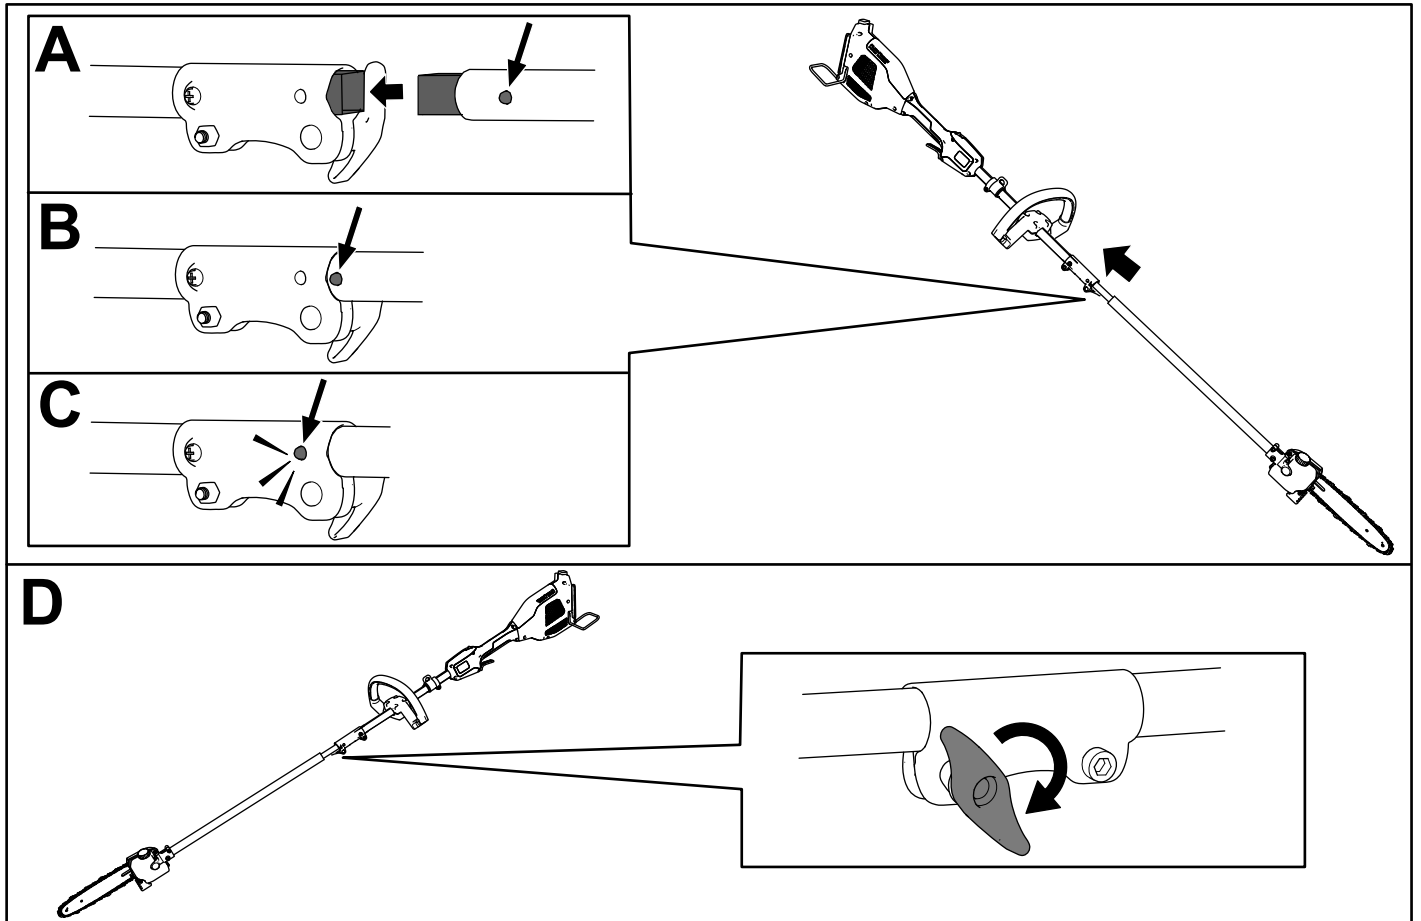

Figure 4
1. Install the square shaft of the attachment into the square shaft of the power head (A of Figure 4).
2. Align the locking button on the lower shaft with the slotted hole on the upper shaft and slide the 2 shafts together (B and C of Figure 4).
**Note:** The locking button clicks into the slotted hole when the shafts are secured (C of Figure 4).
3. Using the screw-handle, tighten the screw on the shaft connector until it is secure (D of Figure 4).